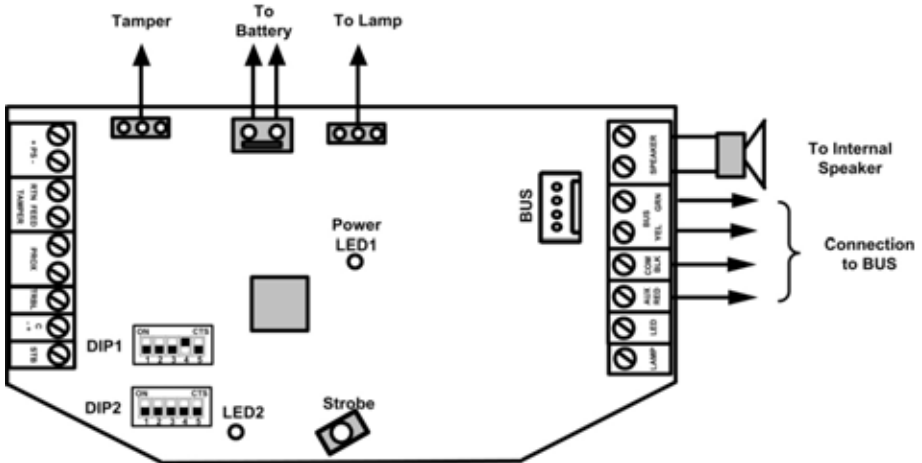

Figure 3-14: ProSound Bus Wiring
1. Connect the siren according to Figure 3-14.